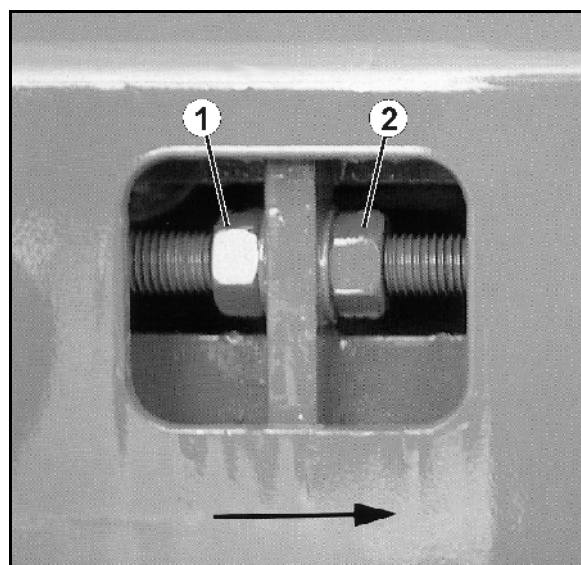

Fig. 78
1. Loosen the rear lock nuts on both sides when viewed in the direction of travel (see arrow) (Fig. 78/1) by turning them anti-clockwise.
2. Turn the nuts on both sides evenly to the left when viewed in the direction of travel (see arrow) (Fig. 78/2).
The adjustment travel of the nuts (Fig. 78/2) must be equal on both sides of the floor belt. Do not turn either nut (Fig. 78/2) more than a ½ spanner turn. Tighten the lock nuts and check whether the belt conveyor is driven evenly again.